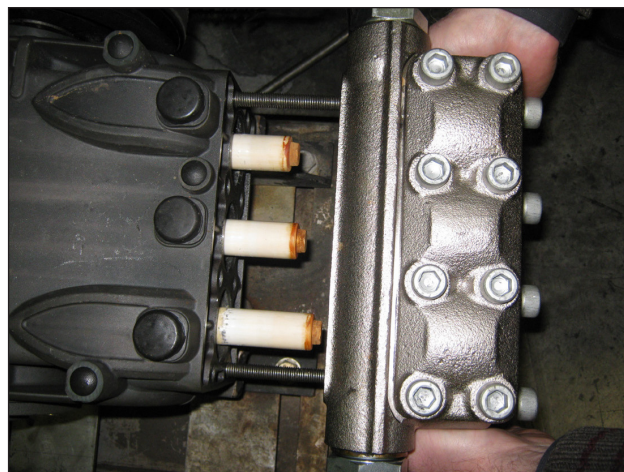

Fig. 29
- B) Lubricate the components ②③⑤ with OCILIS silicone grease code 12001600. This operation is deemed necessary to facilitate the lip seal adjustment on the piston.
1. Using two screws – service pins (code 27726000), fasten the casing as indicated in (Fig. 29). Position the complete head, making sure that it is centred only on the central piston.